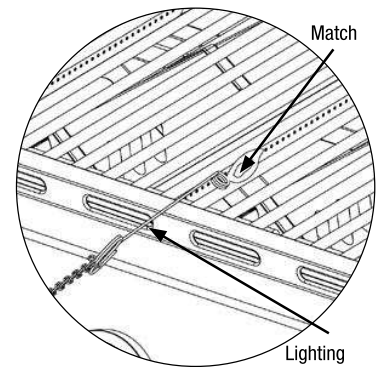

FIG. 3
8. If igniter does not light burner, use a lit match secured with the lighting rod (included with the grill) to light burners. Access the burners through the cooking grate and heat plates. Position lit match near side of burner (Fig. 3).